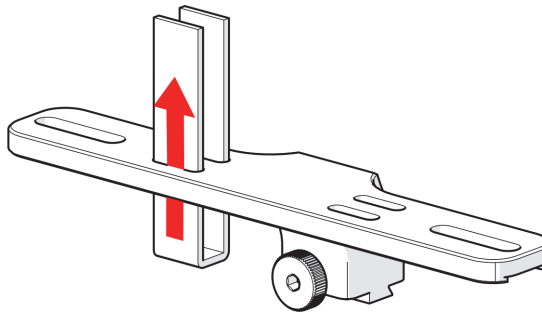
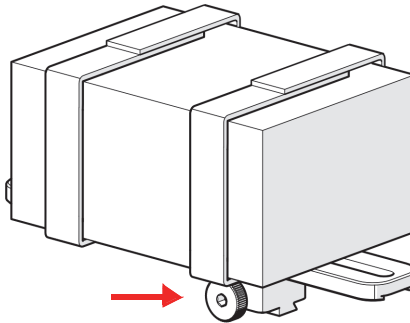

Figure 2-125 Inserting the hook and loop straps
Figure 2-127 Knob to secure the pre-amp bracket on the frame bar
The pre-amp bracket mounts to any dovetail groove to hold a pre-amp. Compatible with most standard pre-amps, use the adjustable screw mounting channel on the bottom of the bracket to attach a pre-amp. The pre-amp bracket may also be ordered with hook and loop straps, which are used to hold the pre-amp (see Figure 2-125 on page 126 to Figure 2-127 on page 127).
1. Insert the hook and loop straps as shown in Figure 2-125 on page 126.
3. Mount the bracket on a frame bar, and tighten the knob (see Figure 2-127 on page 127).